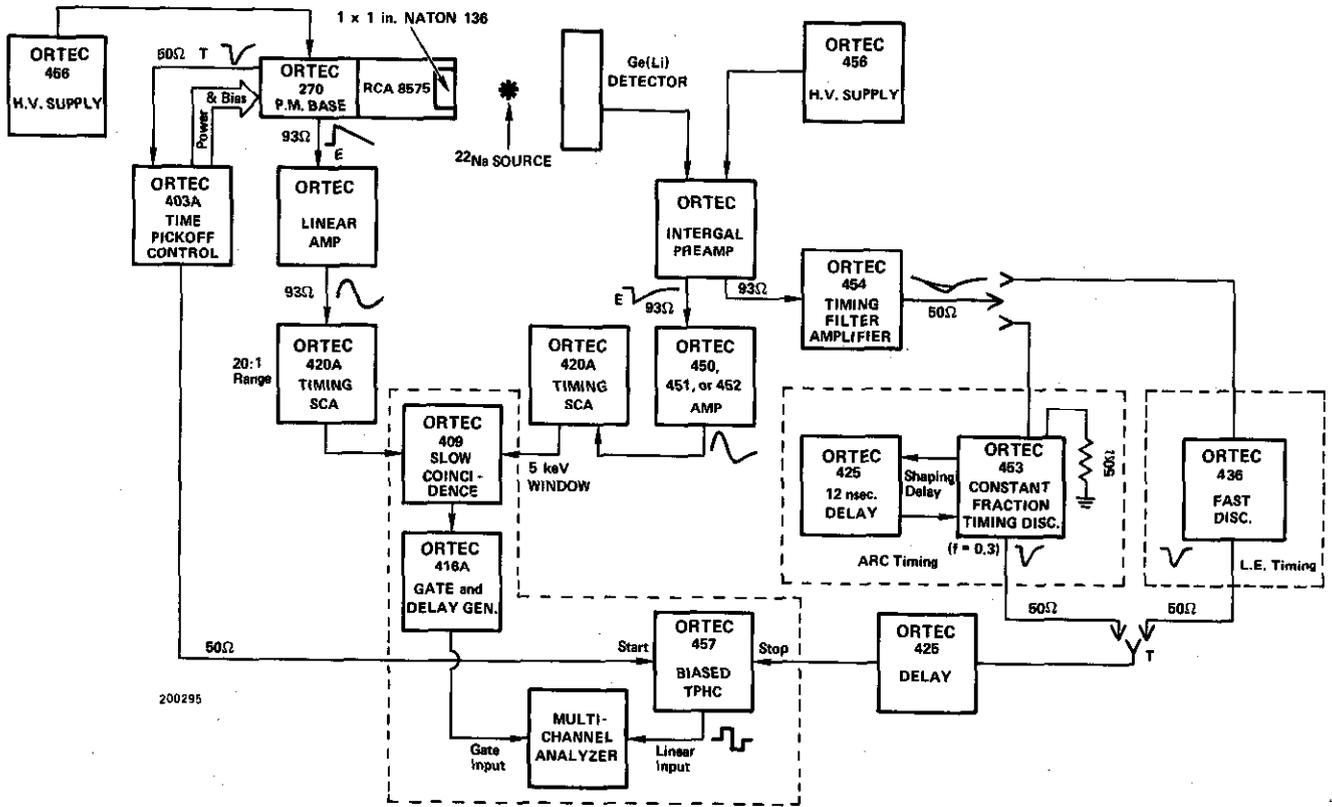

Fig. 7.1. Block Diagram Showing Leading Edge (L.E.) Timing vs Amplitude and Risetime Compensated (ARC) Timing Systems for Ge(Li) Detectors.
**Leading-Edge Timing** Figure 7.1 is a block diagram showing both a leading-edge timing system and an amplitude and risetime compensated (ARC) timing system developed by Chase.1 The left side of the diagram is a conventional CFPHT timing system for fast scintillators.4 Both the leading edge and the ARC timing systems are shown at the right.
**ARC Timing** Figure 7.1 includes the block diagram for an ARC timing system. The requirements for connections